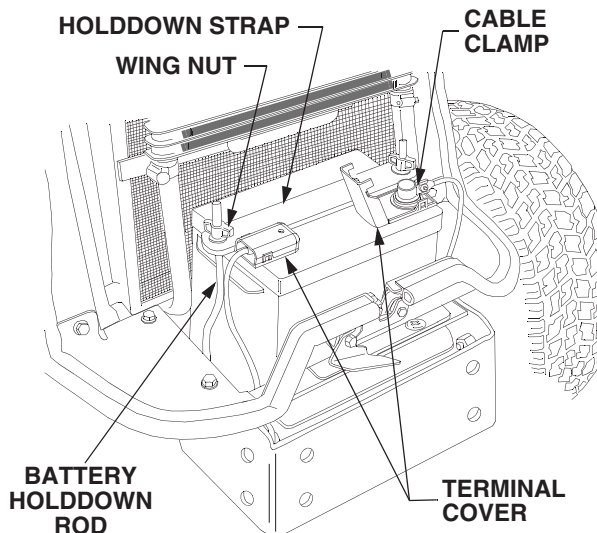

Figure 36
- Remove the two wing nuts and the battery holddown strap from the battery holddown rods. See Figure 36.
- Spread the locking clips on the sides of the terminal covers and lift the tops of the covers to expose the battery connections. See Figure 36